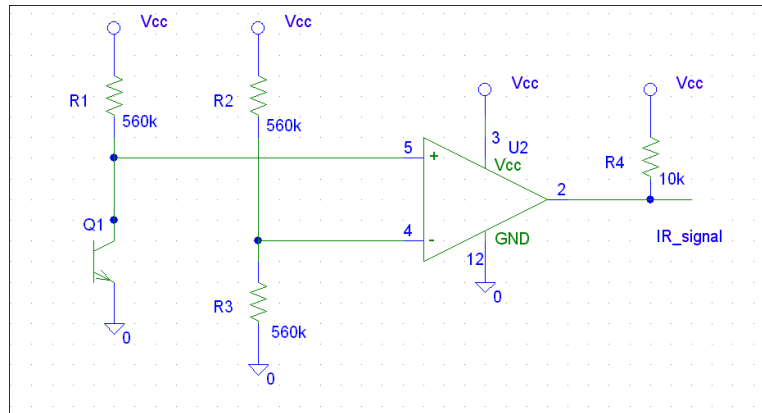
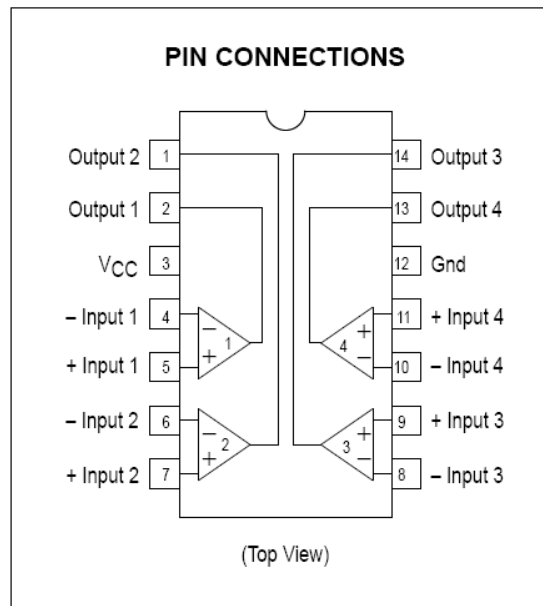

Figure 3: IR Receiver Circuit
Figure 4: LM339 Comparator
- (a) Build the circuit shown in Figure 3. Use the voltage source on your workbench to provide $V_{cc} = 3.3V$ to your circuit. The comparator pin-out diagram is provided for you in Figure 4, and you may use any of the four available comparators. Note the $10k\ \Omega$ pull up resistor connected to the output terminal. This resistor is necessary because the output of the comparator is an open-collector output.
- (d) Since our peripheral has an input pin (i.e. *IR_signal* from Figure 3), we must add it to the port list of our 'user_logic.v' file. Do this now using *IR_signal* as the port name. Be sure to use the autogenerated comments as a guide for where to insert your changes.